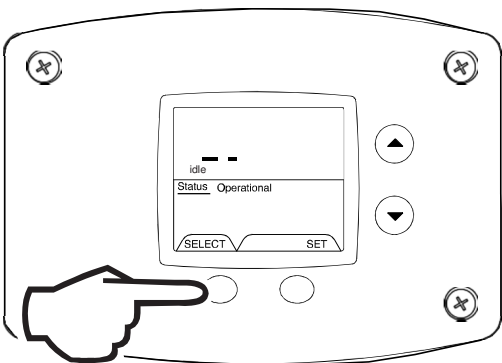

Fig. 68
3. Press the "Select" button to view the error code for 'code 10'. If there is a number displayed, note what the number is. The label next to the water heater display will identify the code number. If no number is displayed with only a '--' in the water heater display, then there has not been an error code for error code index 10 (Fig. 68).